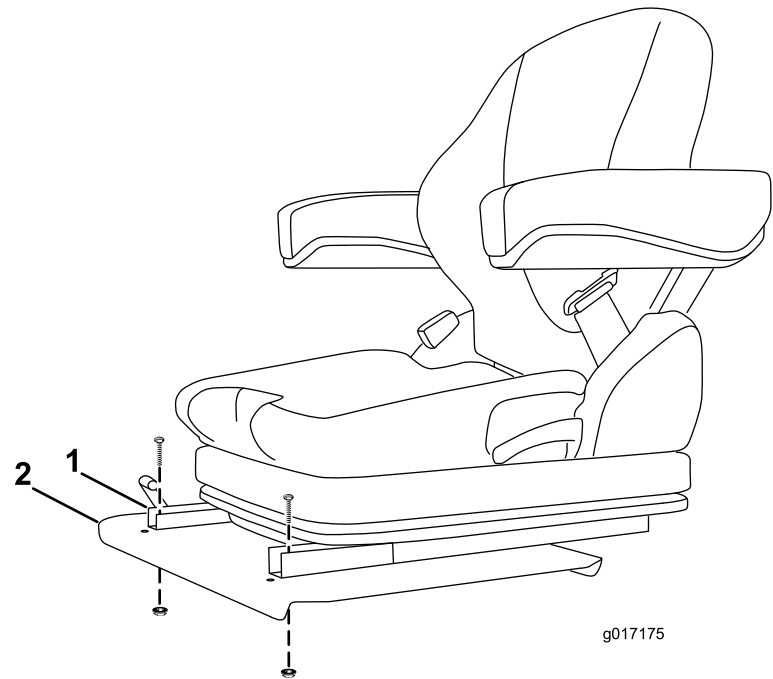

Figure 5
- 2. Mount the front of each seat slide to the seat base with a bolt and flange nut (Figure 5).